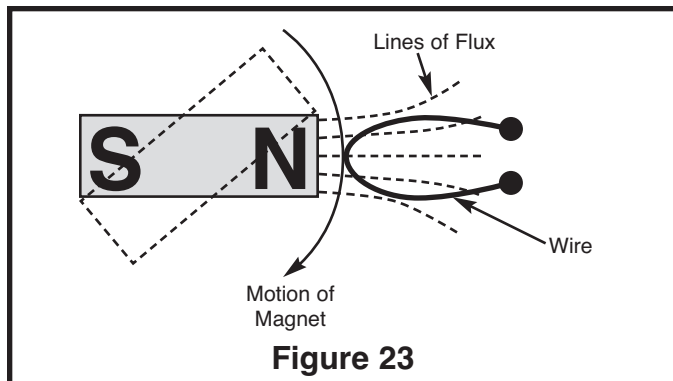

Figure 23
**Faraday's Law** states that any time a conductor moves through a magnetic field (Figure 23) a voltage is generated. Because of this principle, it is possible to attach a magnet (or coil) to a rotating device and produce large amounts of electrical power (the Hoover Dam for example).